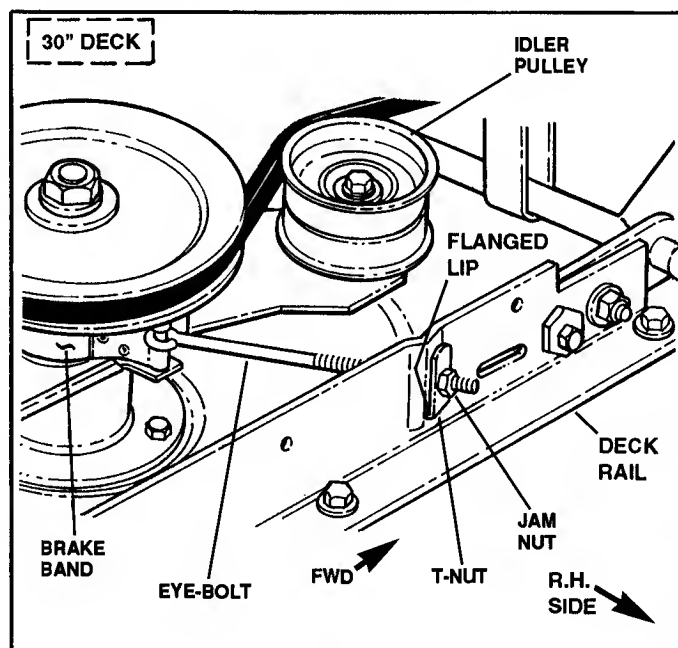

FIGURE 27
4. Tighten BRAKE BAND by loosening jam nut and turning T-nut, on end of eyebolt, clockwise 1 to 2 turns, or until BRAKE BAND tightens. Make sure flanged lip on T-nut is positioned vertically to fit into slotted hole in Deck Rail. See Figure 27.